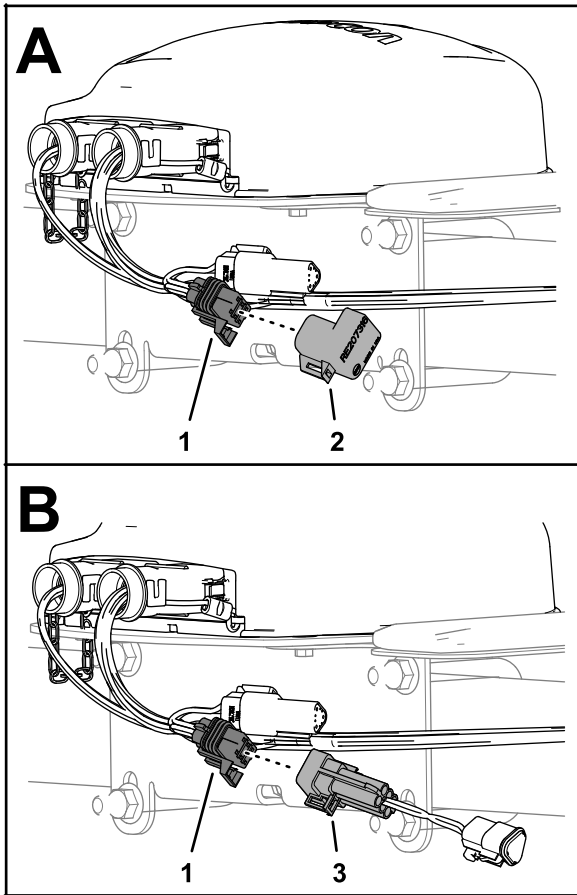

Figure 205
1. At the satellite receiver, remove the ISO bus terminator for the 6-socket connector of the GeoLink harness (Figure 205).
2. Plug the 6-pin connector of the adapter harness—13 cm (5 inches) into the 6-socket connector of the GeoLink harness (Figure 205).